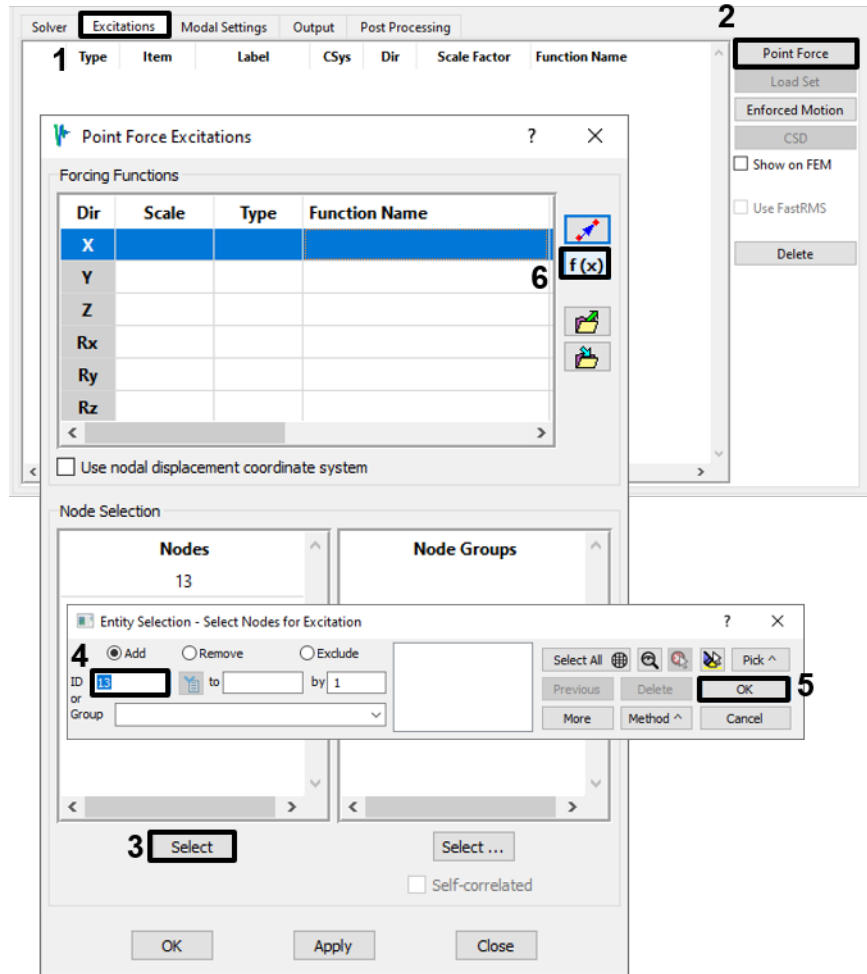

Figure 4-21. Define a point force excitation on node 13 in the X-direction.
- b. On the *Point Force Excitations* dialog, first select node 13 to receive the applied force. Next, select the X-direction in the *Forcing Functions* table, then click the **f(x)** button to bring up the Function Manager (Figure 4-21).